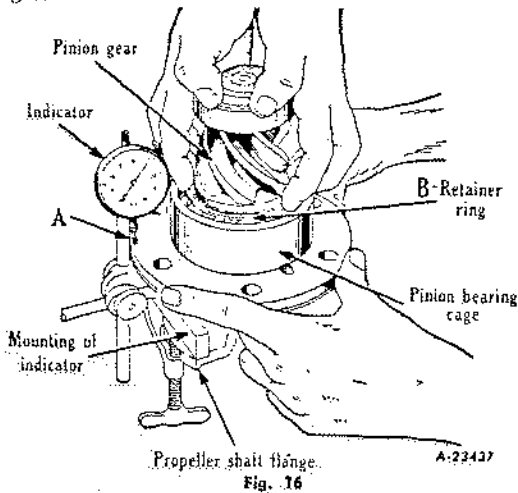

Fig. 16
Fig. 16 shows method of attaching dial indicator when adjusting bearing pre-load. This method can be used when press equipment is not available.
- (1) Place assembly in vice in position shown.
- (2) Mount indicator on propeller shaft flange with indicator finger resting on upper face of cage. (See A, Fig. 16.)
- (3) With the tips of the fingers grasp the bearing retainer and work bearings up against the back face of pinion. (See B, Fig. 16.)
- (4) With the bearings held firmly against the pinion, move the cage up and down, observing the indicator reading. It is impossible to accurately determine the end play unless the bearing is worked loose and up against the pinion. Assemblies having as much as .005" end play cannot be moved enough to show on the indicator until the bearing has been worked up and away from the cup.